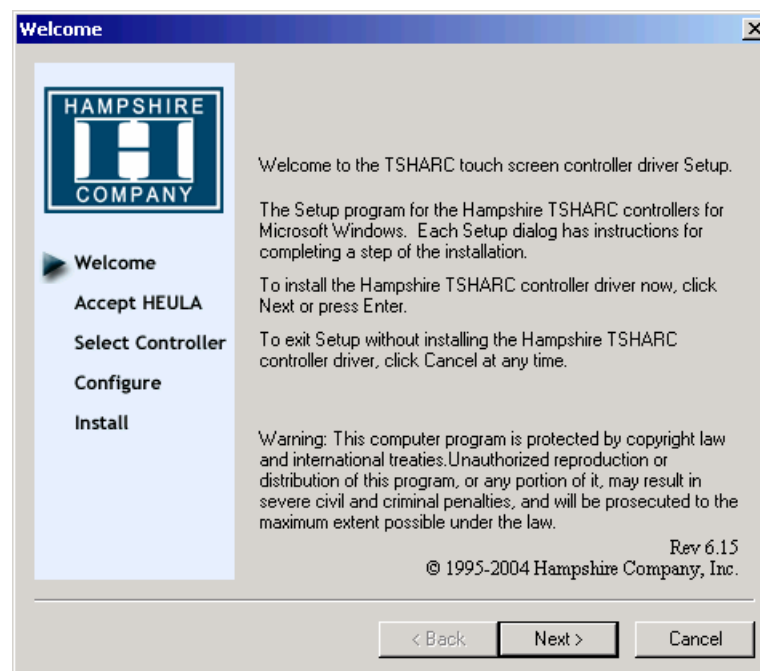

Figure 22: Splash Screen
3. When the splash screen appears (Figure 22) click on Install Drivers